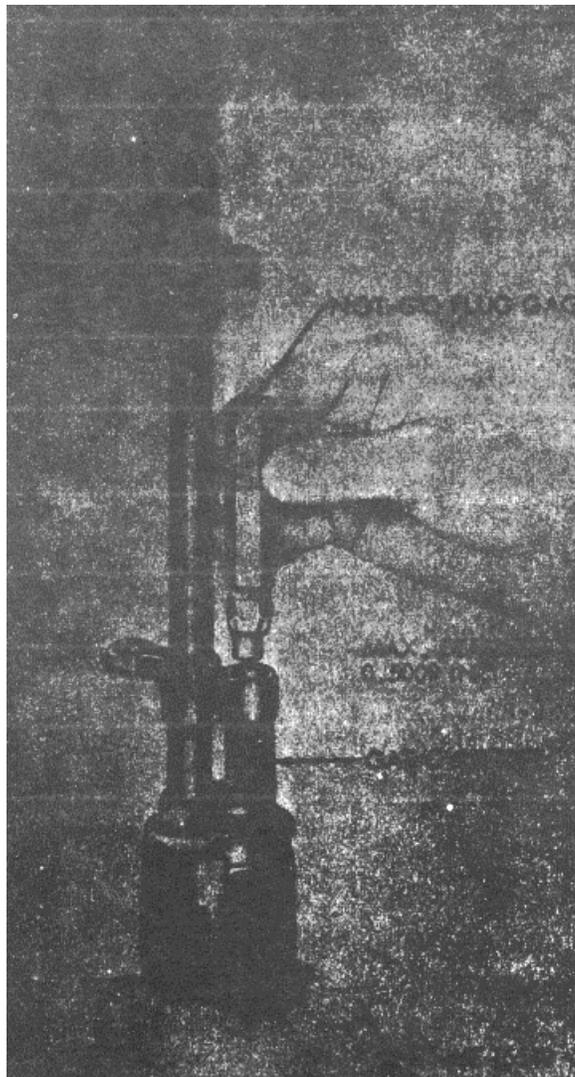

Figure 8-2. Checking diameter piston bole with Not-Go plug gage.
b. *Gas Cylinder.* Use Not-Go Plug Gage (fig 8-2) to check piston hole in gas cylinder. Hole must not exceed 0.5009 inch for serviceability.